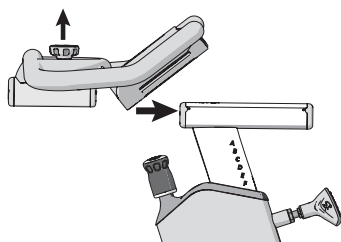

Figure 9
1. Position the handlebar assembly onto the handlebar post (Figure 9) by loosening the fore/aft handlebar knob and pulling it up to align with the grooves on the handlebar post.